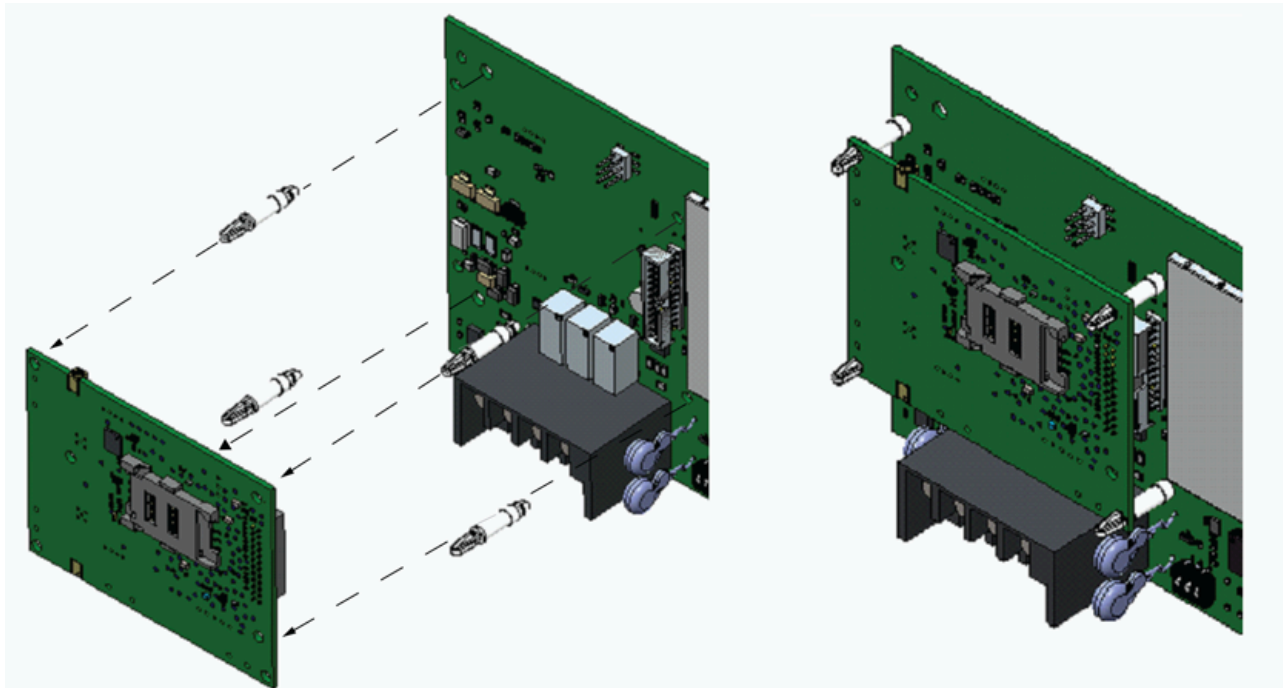

Figure 3: Connecting the cellular module to the IP Gateway
2. Push the four nylon standoffs through the bottom of the cellular module. The longer snap lock ends click through the top of the cellular module, see Figure 3.